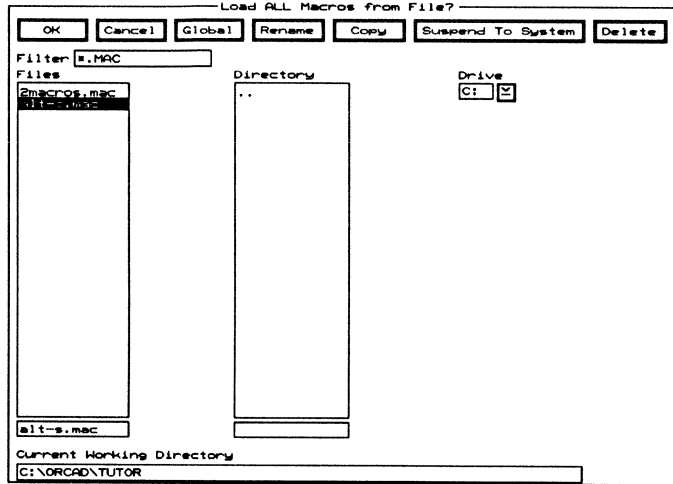

Figure 4-21. The Load ALL Macros From File dialog box.
1. With the Macro Maintenance dialog box displayed, select Load. The Load ALL Macros from File dialog box displays and ALT-S.MAC is selected (figure 4-21).